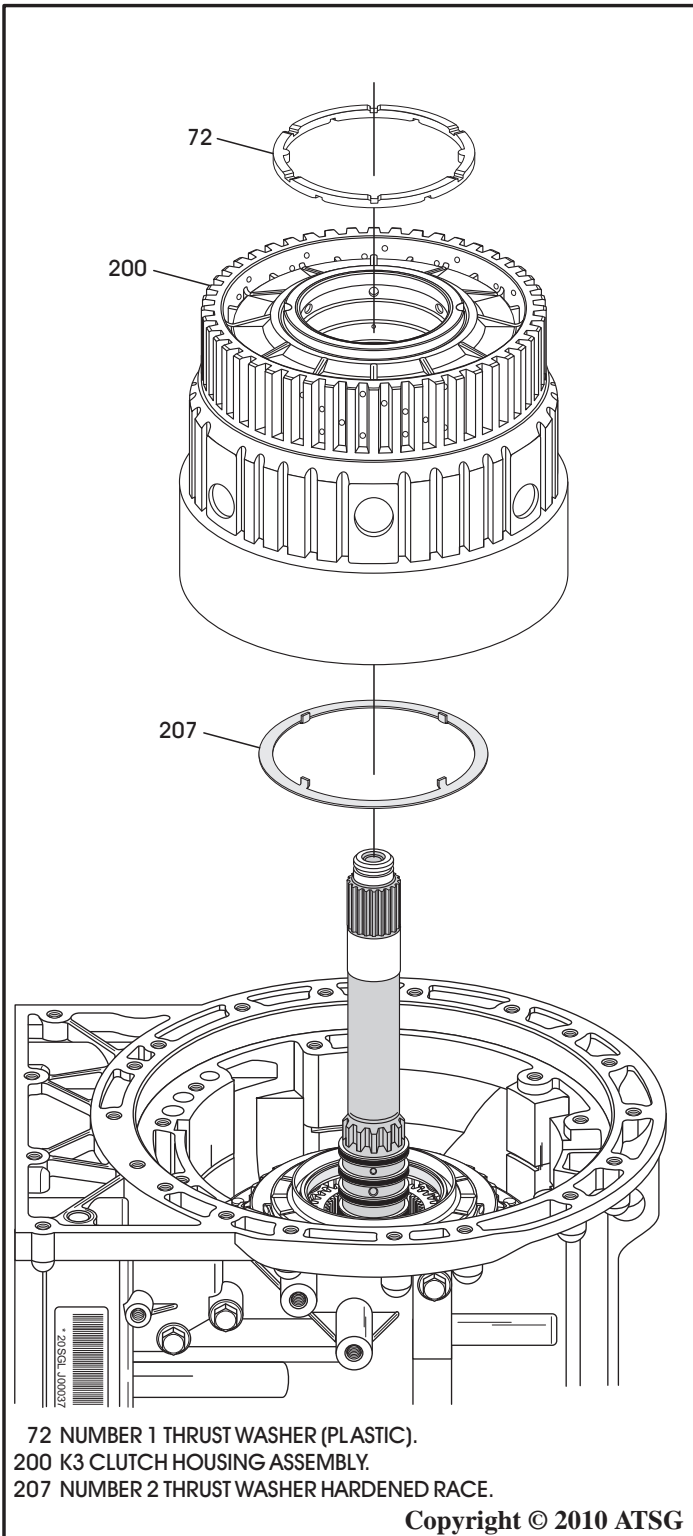

Figure 57
40. Now, you can remove the K3 clutch housing, as shown in Figure 57.
**Note:** Do not lose the number 2 thrust washer hardened race (See Figure 57), may be stuck to K3 balance piston.